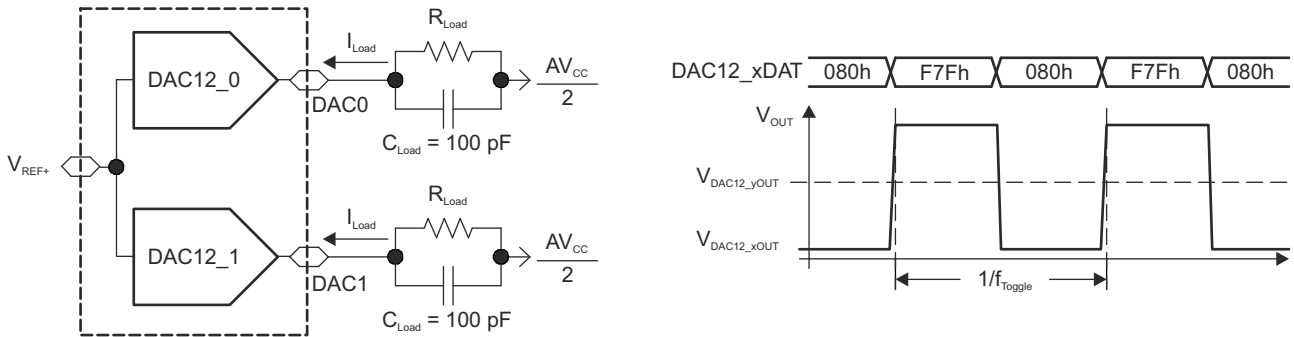

图 8-22. Crosstalk Test Conditions
| Channel-to-channelcrosstalk (1) (see 图 8-22)  | DAC12_0DAT = 800h, No load,DAC12_1DAT = 80h $\leftrightarrow$ F7Fh, $R_{Load} = 3\text{ k}\Omega$ ,$f_{DAC12\_1OUT} = 10\text{ kHz}$ at 50/50 duty cycle | 2.2 V, 3 V |     | -80 |     | dB   |